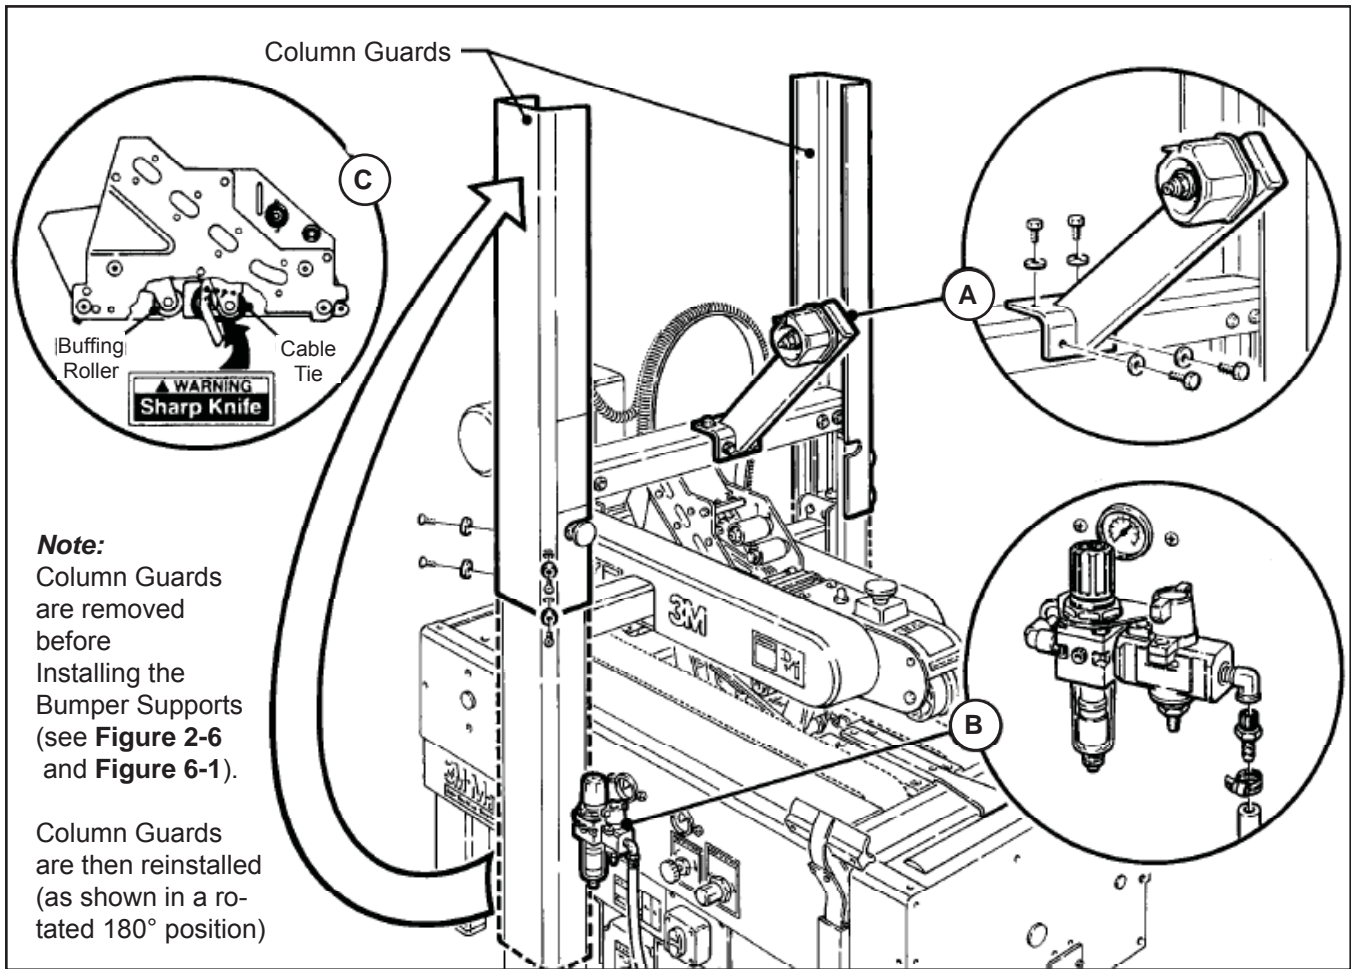

Figure 7-7 – 800r Frame Set-Up
2. The column guards, shown in **Figure 7-7** have been installed upside down for shipping. Remove and retain the screws and washers holding the guards on the columns for re-installation after the Bumper Supports have been mounted (see Column Bumper Installation in the Installation and Set-Up Section and Special Set-Up Procedures Section / **Figure 7-7**). After the Bumpers have been installed, the Column Guards must be repositioned (rotated 180° and re-installed - **Figure 7-7**) for safe operation of the machine. Replace existing screws and washers to secure the guards in place.